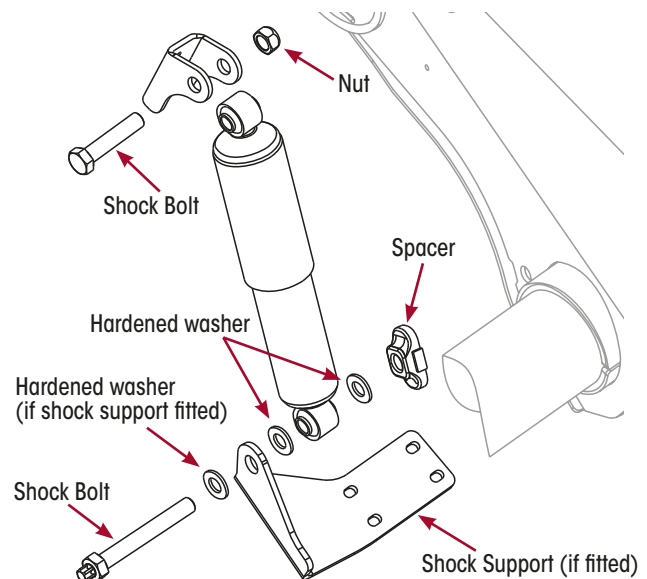

Figure 155: Shock Absorber Installation (AANT shown)
4. Install the upper shock absorber mount to the upper clevis using the bolt and lock nut provided with the kit. Do not fully tighten yet. Refer Figure 155.
5. On suspensions where the HCV lower linkage mounts to the shock absorber mount, install the mount onto the new shear-head bolt before fitting a hardened washer. Otherwise simply slide a hardened washer onto the shear-type bolt. Refer Figure 155.
6. Insert the shear-type bolt through the lower shock support bracket (if fitted), the second hardened washer (only use if support bracket is fitted), the shock absorber mount, the third hardened washer and then the spacer, as shown in Figure 155 and hand tighten.